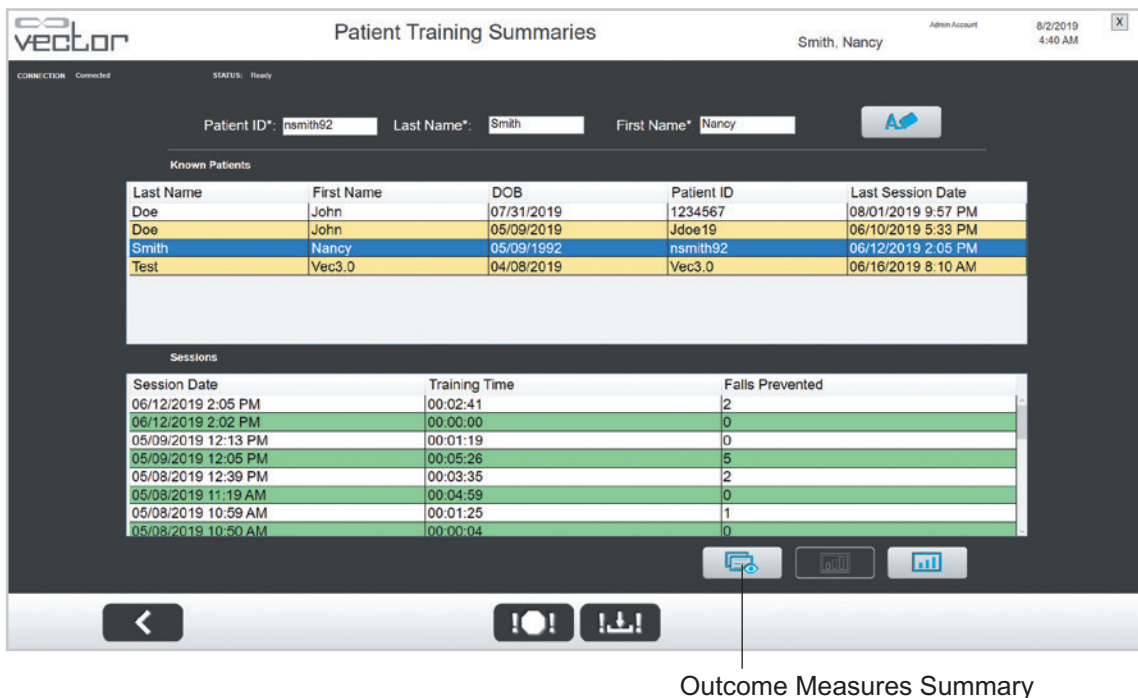
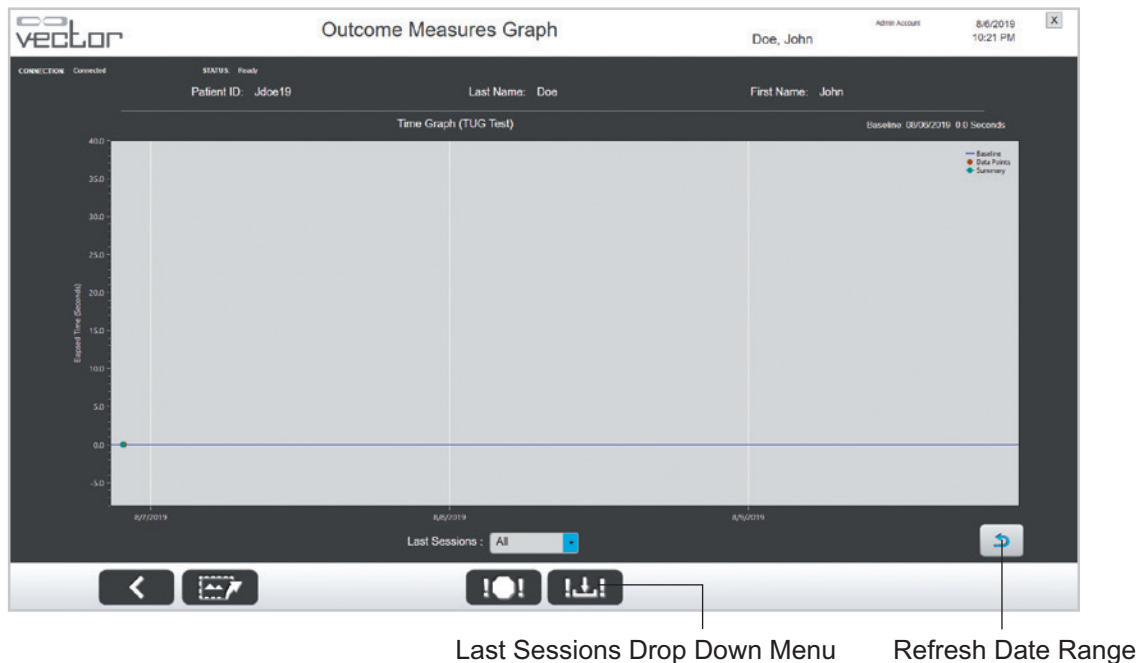

Figure 8-9: Outcome Measures Summary
Figure 8-11: Outcome Measures Summary Graph
17. To view all the of selected Walk test results (5 meters/10 meters/2 minutes/6 minutes) for a given patient, press the View Summary Graph button. See Figure 8-11.
11. If your system features the Outcome Measures software module, you will see an Outcome Measures Summary button on the Patient Training Summaries screen. See Figure 8-9.
- From the Outcome Measures Summary screen, press the Outcome Measures Graph button. See Figure 8-9. The Outcome Measures Graph screen will open for the test type (tab) that is currently selected. The graph will display key results of multiple test runs over a selected number of tests. The graph will also display the Baseline score and daily average (summary). See Figure 8-11.